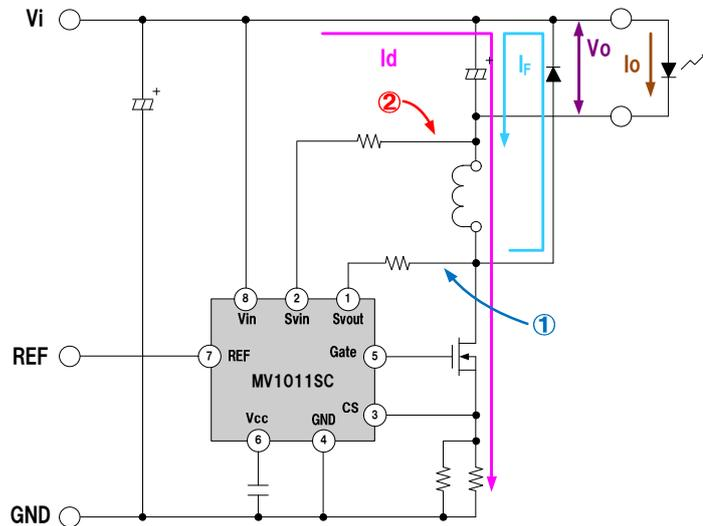
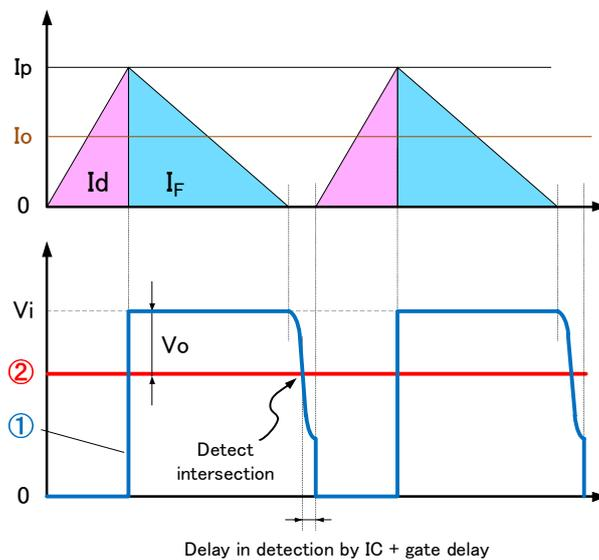

Figure 1 CRM step-down chopper circuit
Figure 2 MOSFET and diode current waveforms of the CRM step-down chopper and voltage waveforms on both ends of the choke
The MV1011SC is a critical conduction mode (CRM) step-down chopper control IC. Figure 1 shows the circuit configuration. Figure 2 shows the waveforms of currents flowing to the MOSFET and the diode, represented by  $I_D$  and  $I_F$ , respectively. In a general CRM step-down chopper circuit, the MOSFET is turned on after the  $I_F$  becomes zero, leaving little recovery current for the diode and lower losses and noises than a PWM circuit. Meanwhile, disadvantageously, the oscillation frequency changes dramatically as the output current (LED current) changes, resulting in poorer dimming characteristics and efficiency.
The MV1011SC detects  $I_D$ , converted to a voltage, with the current detection pin (CS pin). When it reaches the CS reference voltage, the MV1011SC turns the MOSFET off (peak current detection). The IC performs CRM control in this way: When the diode current  $I_F$  becomes zero, the  $S_{vout}$  voltage falls below the  $S_{vin}$  voltage, so the IC detects this state (zero current detection) and turns the MOSFET on. The voltages on both ends of the choke (① and ② in Figure 2) are divided with resistors and input to the  $S_{vin}$  pin and the  $S_{vout}$  pin to achieve CRM operations without auxiliary winding. Additionally, the off-time modulation prevents the frequency increasing during dimming and achieves constant high efficiency and dimming characteristics during deep dimming. (See Section 5 [Dimming characteristics] on page 20.)
Figure 3 shows an example of a starting operation in the Vcc->REF sequence, using the circuit configuration shown in Figure 1.